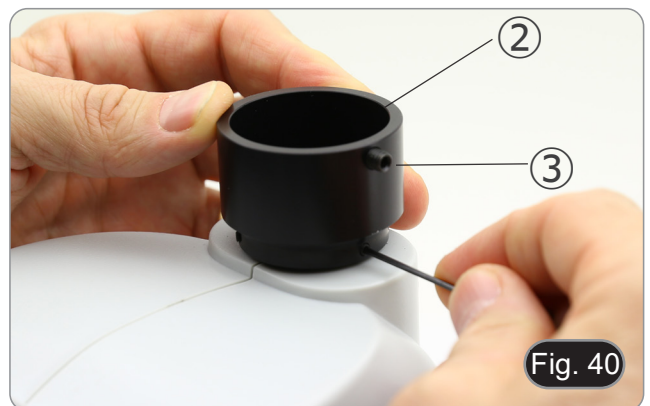

Fig. 40
2. Insert the ring of the photo port ② making sure to leave the fixing screw of the photo adapter ③ facing right. (Fig. 40)